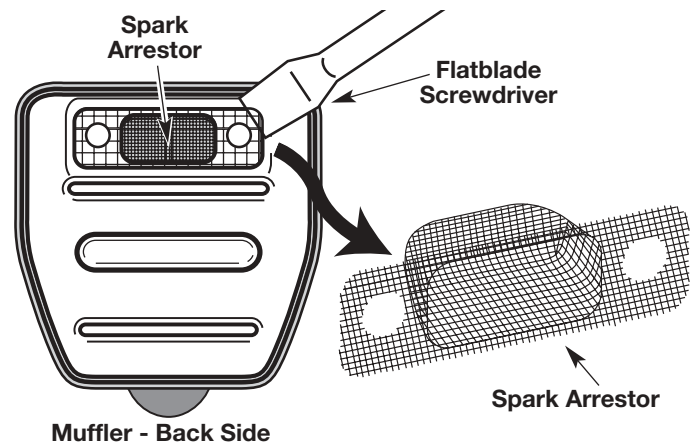

Fig. 27
4. Using a small flatblade screwdriver, carefully pry up the spark arrestor from the recessed hole (Fig. 27). Remove spark arrestor from muffler.
5. Clean the spark arrestor with a wire brush. Replace if damaged or unable to clean thoroughly (Fig. 27).